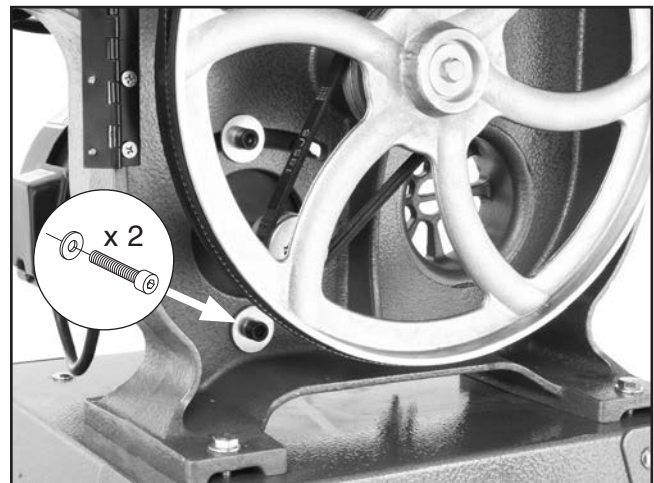

Figure 15. Installed cap screws.
2. Loosely thread (2) M8-1.25 x 25 cap screws, 8mm flat washers, and 8mm lock washers into the motor (see **Figure 15**).